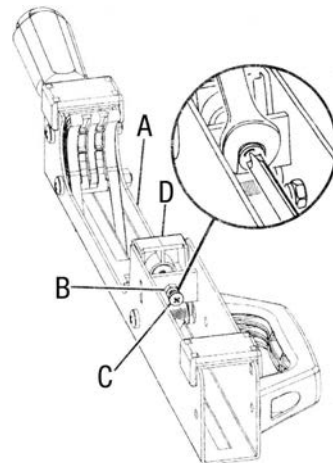

FIGURE 10
If a mounting bracket (A) Fig.10 is too loose or too tight on the stand frame, an adjustment to the mounting bracket can be made.
- 1) Position the mounting bracket (A) upside down as shown in Fig.10.
- 2) Using an open wrench key and a screwdriver, loosen hex. nut (B) then adjust the pan head screw (C) in or out until the correct adjustment is done.
- 3) Tightening the pan head screw will move the plate (D) inwards for a tighter fit on the stand frame. Loosening the pan head screw will move the plate outwards for a less tighter fit on the stand frame.